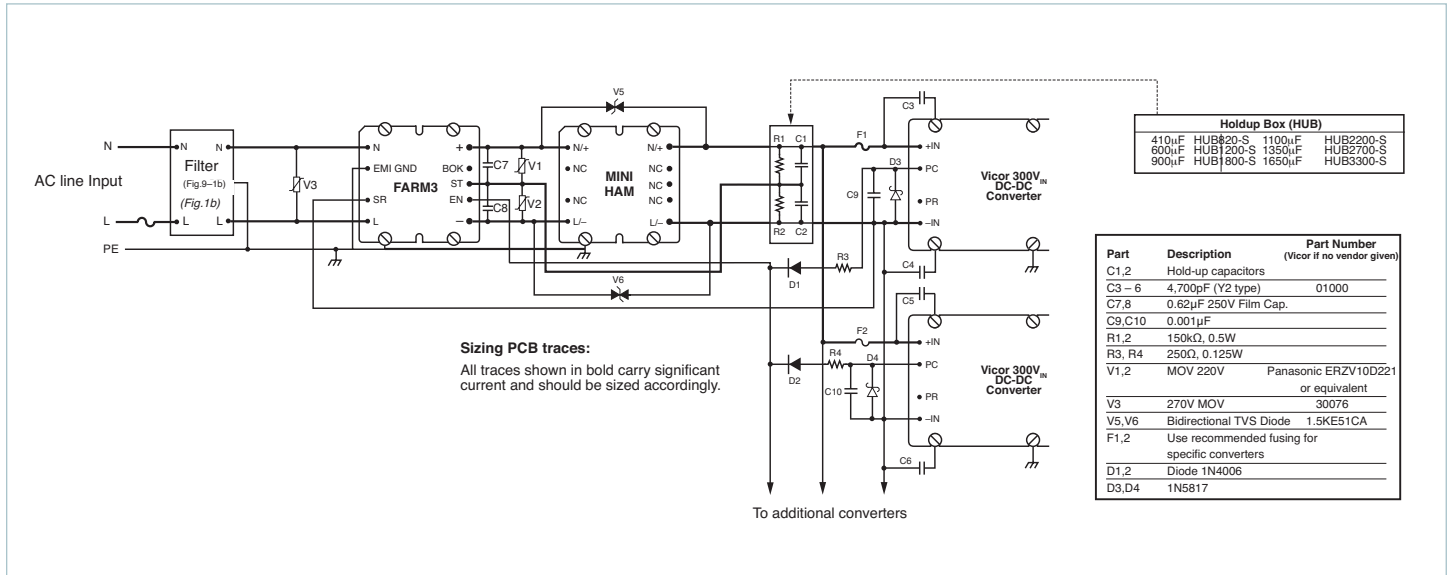

Figure 9.1a — Offline power supply configuration
**For MiniHAM™ Module Pin connections (Figure 9.1a)**
It should be noted that the series combination (C1, C2, Figure 9.1a) requires each capacitor to be twice the calculated value, but the required voltage rating of each capacitor is reduced to 200V.